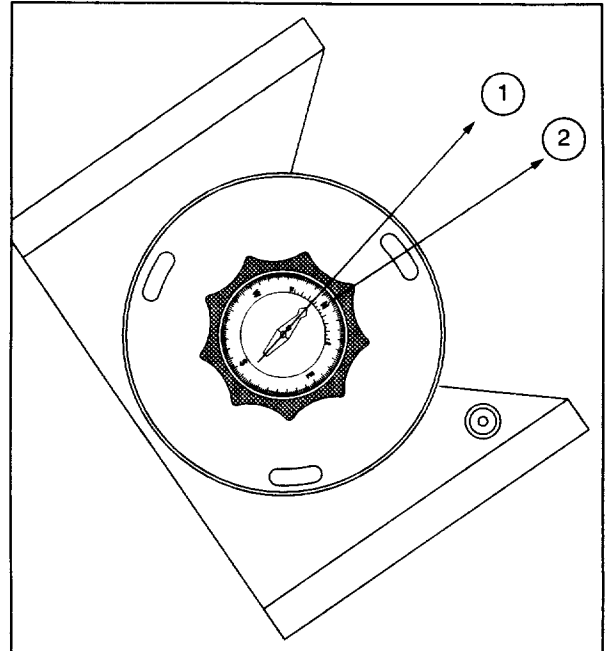

Fig. 8: Superwedge. (1) Magnetic North; (2) Centerline of Wedge, True North.
- c. Manually rotate the Superwedge in azimuth around the threaded rod (without moving the knob/compass) until the centerline of the wedge is aligned with the point of the knob/compass (Fig. 8). The centerline of the Superwedge now falls directly on the true north line.